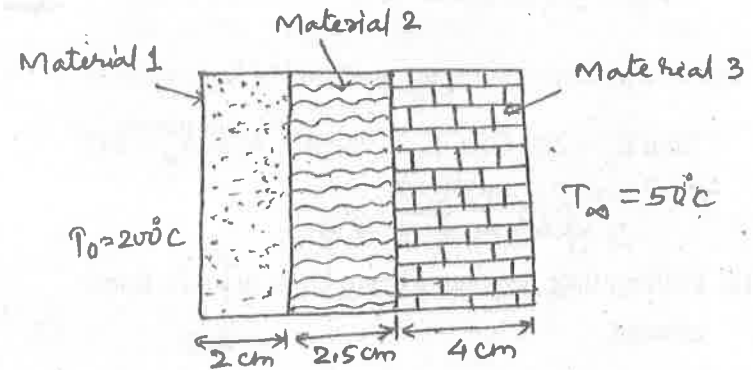

Fig. 1
- (c) A composite wall consists of three materials as shown in fig.1 The inside wall temperature is 200°C and the outside air temperature is 50°C. With a convection coefficient (h) = 10 W/m²K. Determine the temperature at the junctions along the composite wall. 4